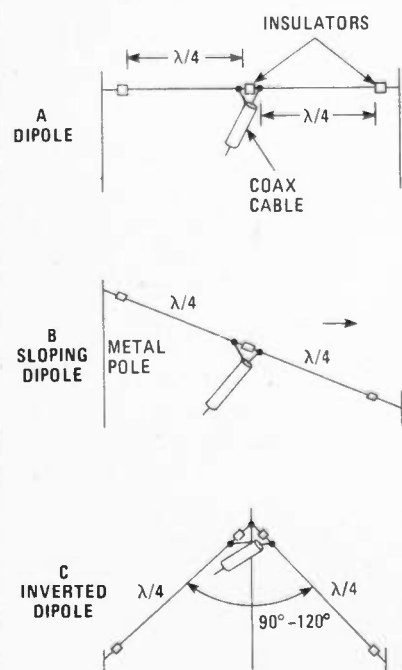

FIG. 1—TYPES OF DIPOLES
A breakout box that will open all 25 RS-232 connections doesn't come cheap. In actual fact, more often than not only 10 or fewer connections are used, and two of them are ground while another is not generally used. So tops, all we need worry about are seven active circuits, which can be easily handled by an RS-232 Breakout Box built mostly from junk-box parts, such as shown in the photographs and Fig. 1.
In the RS-232 Breakout Box shown in Fig. 1, switch S1 reverses the connection of the RS-232 signal lines, which are 2 and 3. That is needed because RS-232-2 is used when providing a signal to a printer, while RS-232-3 is the signal feed to a modem. If your computer's RS-232 output doesn't
**FIG. 1—COMPLETE** schematic diagram of the Breakout Box makes its principle of operation easy to understand. You'll need a little RS-232 background provided by the text. The light emitting diodes are numbered to correspond to the signal lines in the cable. Whether they are on, or off, or flickering, will indicate to you the status of the RS-232 signals in the cable.
Each of the commonly used RS-232 connections has a light-emitting diode (LED) status indicator. LED1 through LED7 are red. LED8 is yellow or green, or anything else easily distinguished from red. Any light-emitting diode that is *on* indicates a normal *high* on the circuit. If the LED is not *on*, the circuit is *low*. If the LED flickers, it's an indication that there is data being transmitted on the circuit. For example, when feeding a modem, the status 3 light-emitting diode (LED3) will flicker when keys are pressed. (Note: in Fig. 1 the practice of numbering LED's consecutively has been discontinued in favor of having the LED's symbol designation coincide with the RS-232 signal line. Thus, line 20 is common to LED20 with a LED panel marking of "20" on the box.) Similarly, LED2 will flicker when the modem passes data to the computer. Actually, when using a full-duplex modem, LED3 will flicker followed almost immediately by a flicker from the LED2 as the modem receives the echo of the keyboard entry from the host computer.
As shown in Fig. 1, three connections pass through the
The schematic diagram (Fig. 1) for the RS-232 Breakout Box doesn't show the DB-25 connectors used for input and output connection, because you must select the type that fits your needs. In actual fact, either the A or B connections can be the input or output. The most common arrangement, however, would be a female connector for the A terminals and male connector for the B terminals.
Dipoles are found in three common forms, as in Fig. 1. The classic dipole (A) is a straight horizontal half-wave length antenna separated into two quarter-wave segments and fed at the center. Another version (B) is called a *sloper*, because of its slant from a high mounting position toward the ground. If a metal mast is used, that style has some directivity in the direction of the slope as shown. The third form (C) is the popular inverted dipole (often called an inverted-V).
The transformer consists of two or more coils of wire wound over a common core of (usually) an iron alloy. Figure 1-A shows the basic transformer configuration. There are two windings shown in Fig. 1A—the primary and secondary
**FIG. 1—TYPICAL POWER-SUPPLY transformer configurations are: A—common two-winding type used in the discussions related to equations (1) through (3); B—transformer with multiple secondary windings are used extensively in vacuum-tube electronic device, and power supplies delivering isolated ground circuits; C—multiple primary-winding transformers when connected in parallel accommodate 117-volt AC power lines; D—and when connected in series, accommodates 220-volt AC power lines; and E—transformers with tapped primary windings accommodate AC power lines the world over. A switch (or jumper wire) is set to the position that most nearly meets the lines voltage.**
Transformers come in configurations other than the basic type shown in Fig 1-A. Other transformer variations are shown in Figs. 1-B through 1-F.